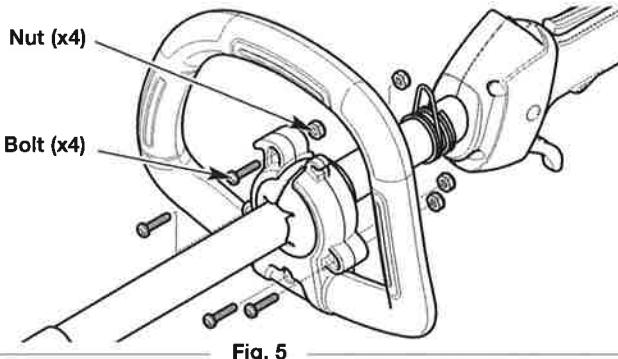

Fig. 5
- Insert a nut into one of the hexagonal recesses in the back of the rear handle bracket (Fig. 5). Make sure the round side of the nut faces outward. Hold the nut in place with a finger. Insert a bolt into the corresponding hole in the front handle bracket (Fig. 5). Tighten the bolt with a flat-head or T20 Torx® screwdriver. Repeat this step until all four (4) bolts are securely installed.